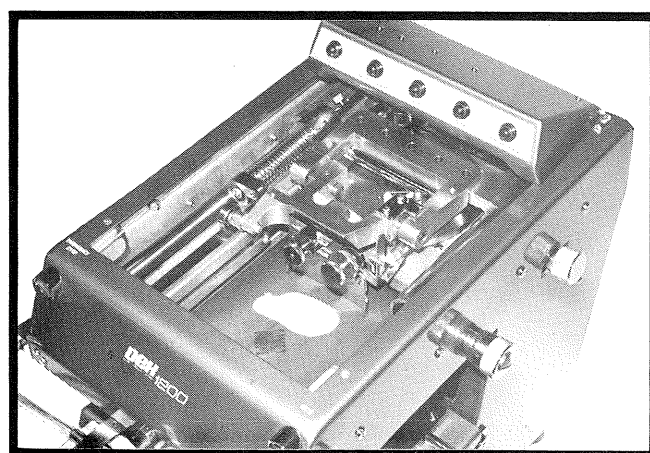

Fig 41
- C 5 Apply printing medium to screen, in front of or beyond the image (Fig 41).